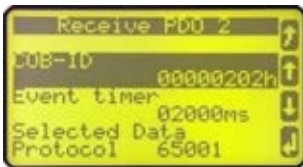

Fig. 173: RPDO configuration for 2nd IKD 1 (example HMI)
2. → Set up RPDO2 for the easYgen on the front panel as shown in (Fig. 173).